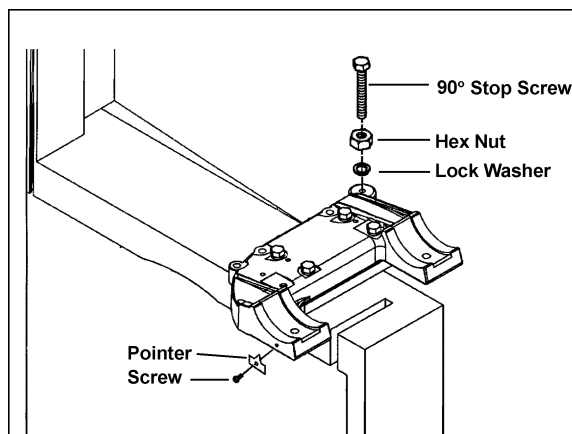

Figure 2
9. Remove the 90-degree stop screw with hex nut and lock washer (Figure 2) from the old trunnion bracket, and install them on the new trunnion bracket.
10. Remove the pointer and screw (Figure 2) from the old trunnion bracket and install them on the new trunnion bracket.